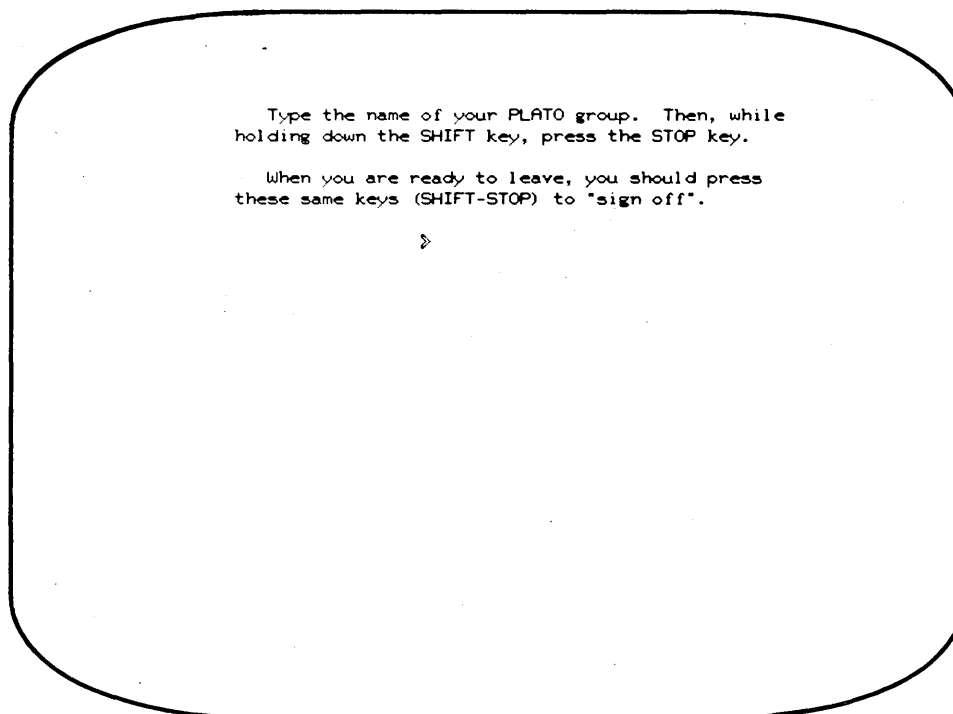

Figure 2-4. Group Name Display
3. Type your PLATO name (same name your group director entered during registration). As you type, each character appears to the right of the arrow (➤) on the Welcome Display. If you make a mistake, press the ERASE key to erase each letter back to the mistake and retype your name correctly. When finished, press NEXT. Display should now show Group Name Display (figure 2-4).